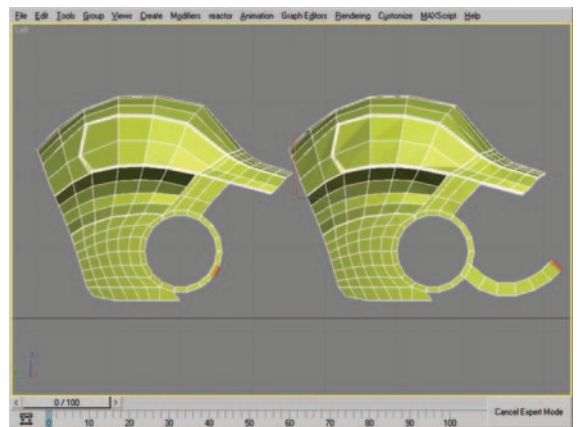

Figure 8.50 Edge selection (left) and newly created polygons after using shift-drag while following the blueprint (right).
51. In the left viewport, select the edge seen in Figure 8.50 (left) and use the shift-drag technique to clone the edge six times, following the blueprint image to guide the new geometry (Figure 8.50, right).